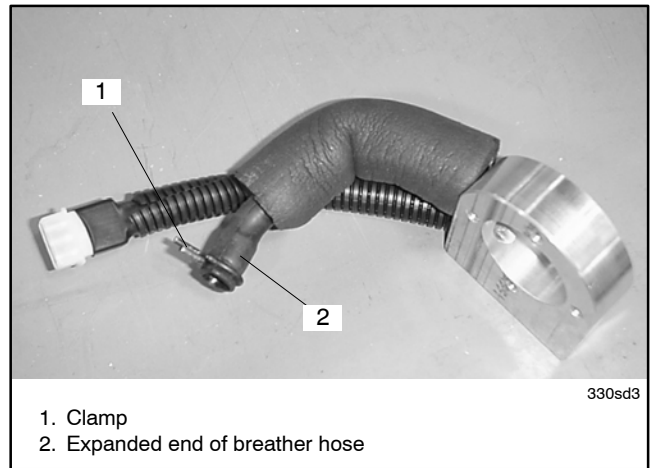

Figure 10 Breather Hose and Clamp
- 4.6 Slip the 2-inch length of breather hose onto the end of the copper tube. Insert the copper tube into the small end of the hose until the end of the copper tube reaches the expanded diameter of the hose. See Figure 10.